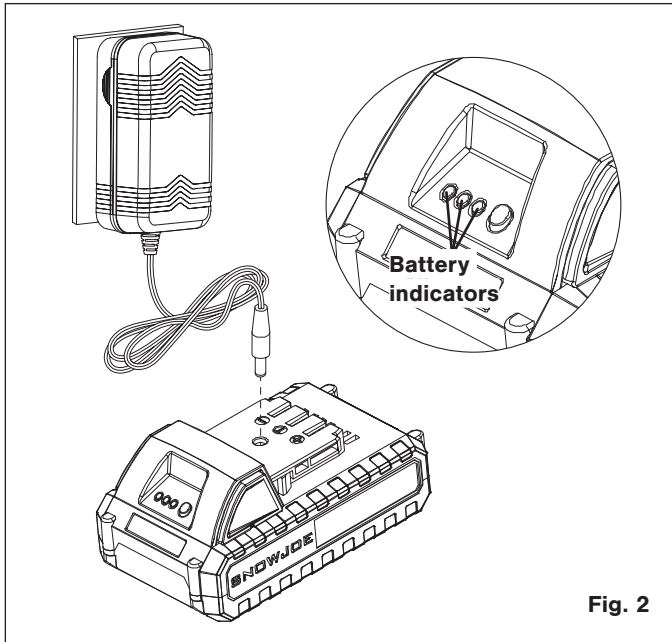

Fig. 2
2. Check that the mains voltage is the same as that marked on the rating plate of the battery charger. Then plug the charger into an appropriate AC power outlet. Connect the charger plug into the charging socket of the battery to start charging (Fig. 2).